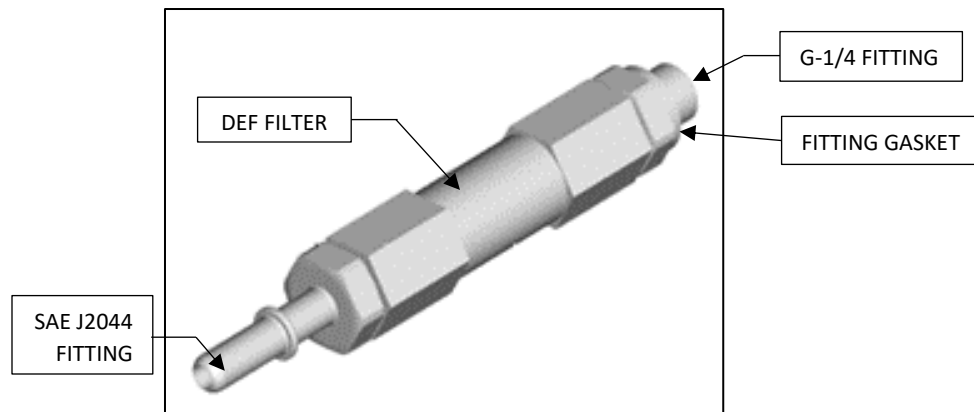

Figure 4: Replacement DEF Filter with Gasket and Fittings
- g. Install new filter by threading it into the opening on the DEF Dosing Unit clockwise. The replacement DEF filter is provided complete (Figure 4) with a G-1/4 fitting on the filter outlet, a replacement gasket to seal the fitting against the DEF Dosing Unit and a SAE J2044 fitting on the inlet. It is ready to install and does not require any additional sealant, thread locker or Teflon tape. Tighten finger tight until the filter is seated against the Dosing Unit and then tighten to 15-17 lb-ft (20-23Nm).